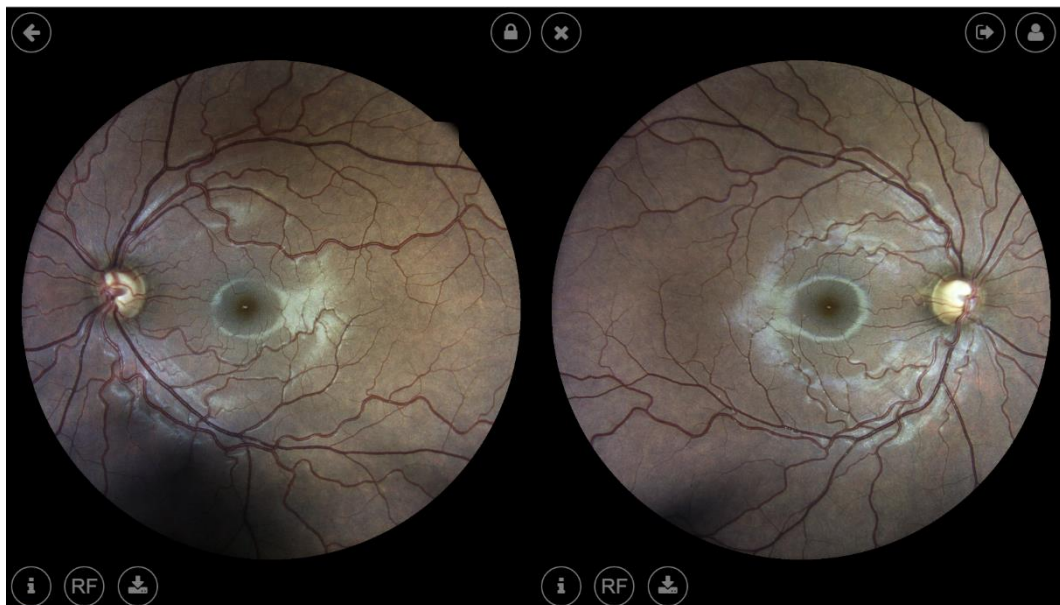

Fig. 30 – Dual Image Review screen in Remote Viewer
3. Displays patient related information (full name, date of birth, gender, code) and a thumbnail view of all exams available for this patient (date and time of acquisition, eye, average pupil size, exam type). Command is also used to compare the currently displayed image with any other image in the list click on the corresponding Compare button: see Dual Image Review screen (see Fig. 30)